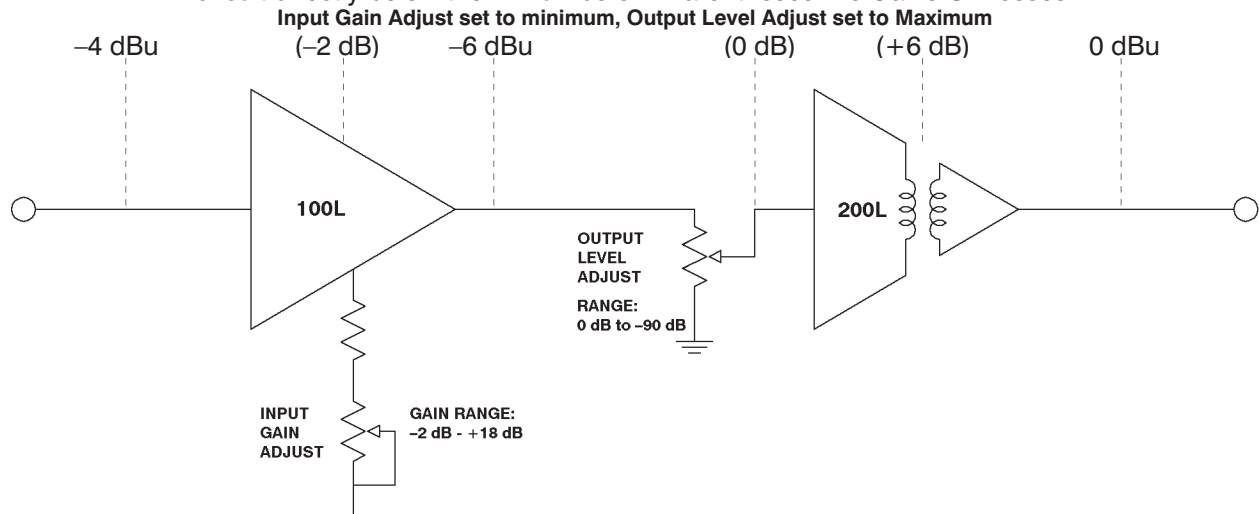

Figure 2 - Gain Structure
1. Locate a proper slot in the mainframe. Mainframe slots are set up on the rear panel of the mother board according to the card type to be used. Slots are dedicated by installing the proper trimpots. Trimpots **MUST** be installed as indicated in Figure 2 and 3 for inputs and outputs to function. Microphone level inputs require 200 Ω trimpots. All others require 10 k Ω trimpots. Slots labels are applied at the factory above each slot position.
The gain structure diagrams in Figures 2 - 4 show the signal levels and gains or losses at key points in the cards. Since all outputs on a card behave identically, only one output is shown in the diagrams. In the examples the Input Gain Adjust pots were set for minimum gain (fully counterclockwise), and the Output Level Adjust pots at maximum output (fully counterclockwise). The levels and gains shown are those required to produce an output level of 0 dBu.